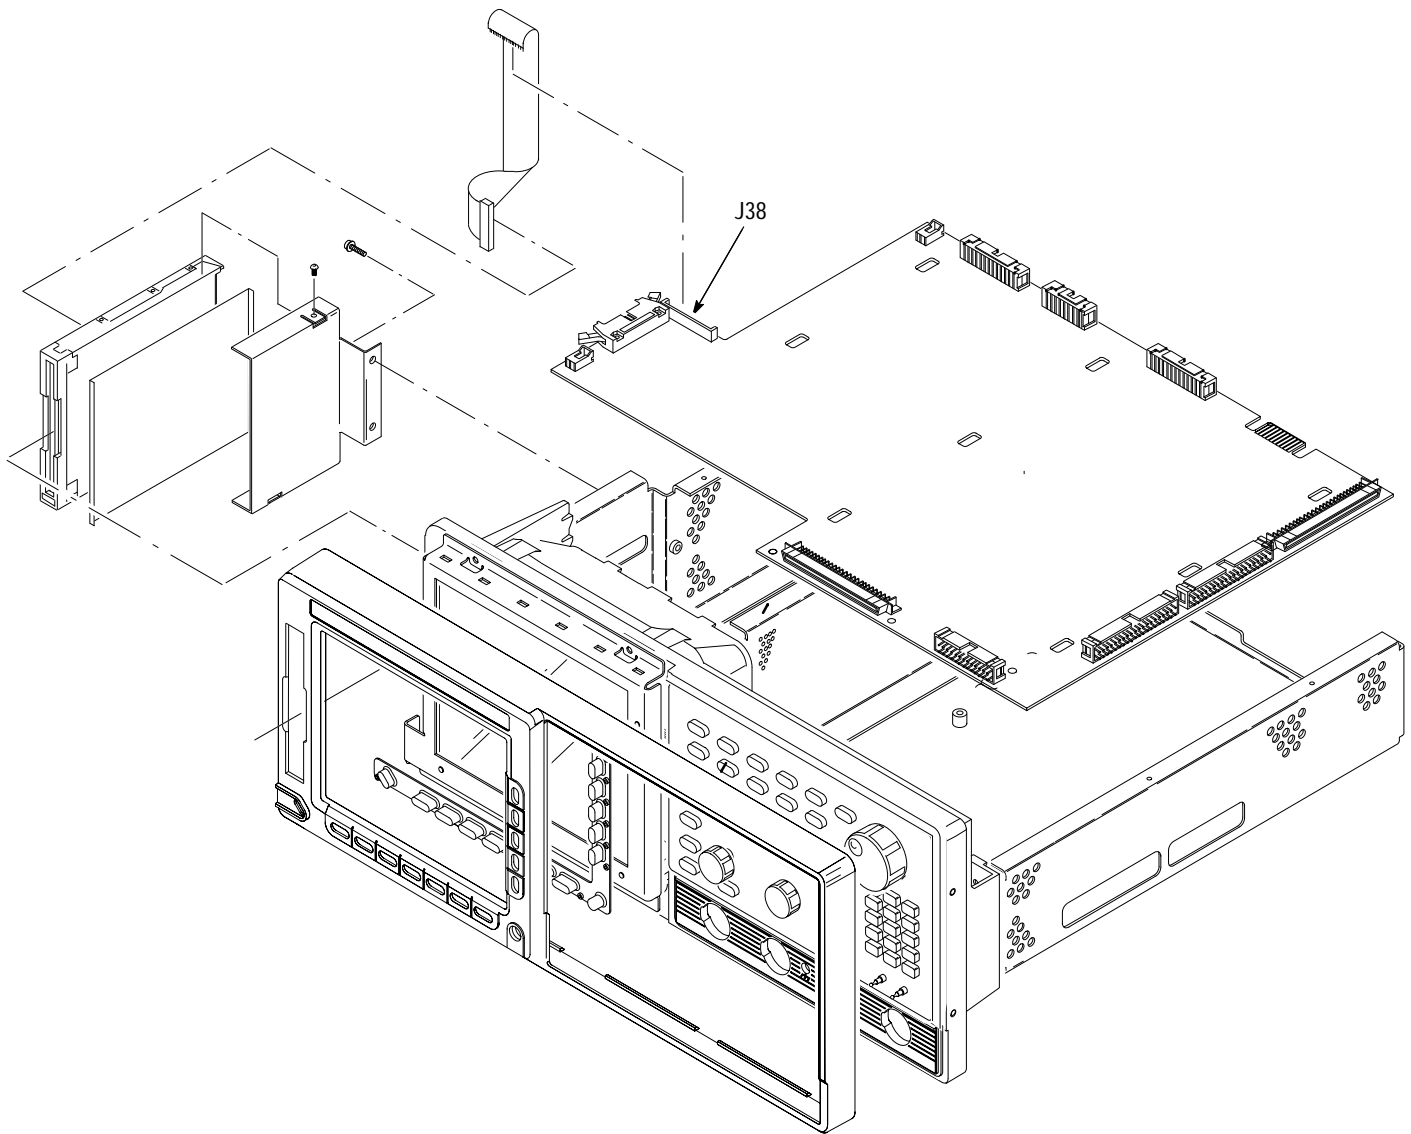

Figure 6–19: Floppy Disk Removal
- b. Locate the modules to be removed, including those listed under *Additional Modules Removed* in the locator diagram *Outer-Chassis Modules*, Figure 6–2, page 6–13.
3. *Remove the rear chassis:* Use Figure 6–20 as a guide when doing the following substeps: